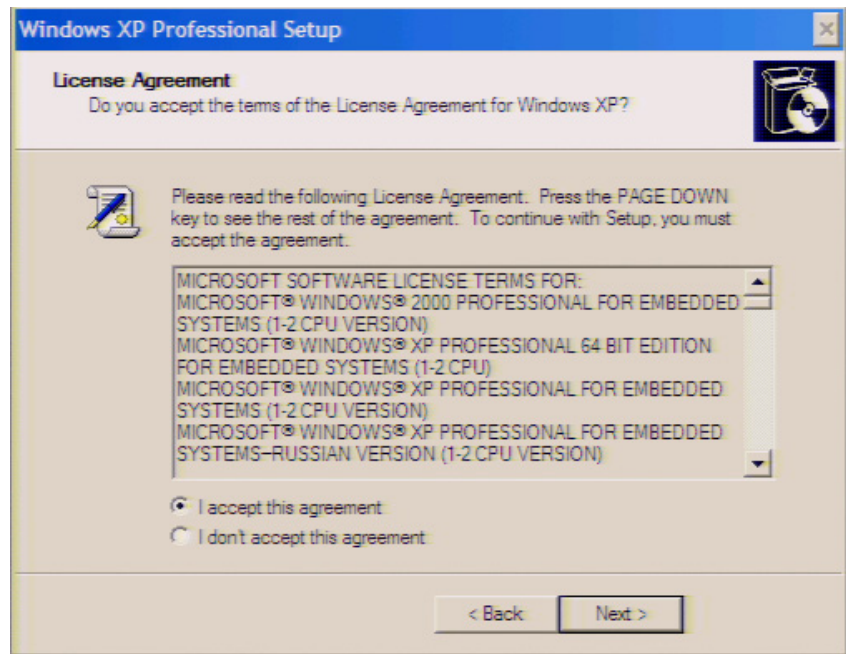

**Figure 14** Windows XP Pro for Embedded Systems start up screen
**Step 4.** The windows start up screen as shown in Figure 14 appears.